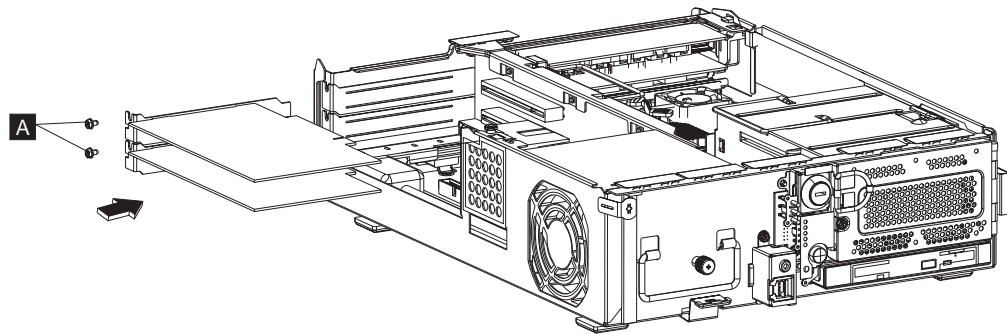

Figure 41. Installing feature cards
2. See Figure 41 to locate the feature card slots. Remove the slot covers on each slot that is going to receive a feature card.
4. Insert the retaining screw ( **A** in Figure 41).